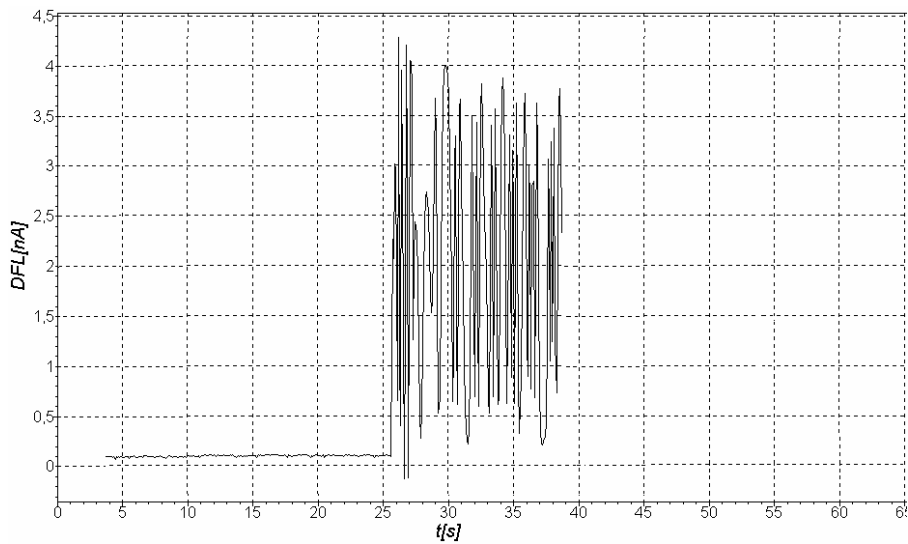

Fig. 3-11
*It can be so that after the approach procedure is performed and **DFL** signal is increased to the value of **Set Point** parameter, **DFL(t)** dependence demonstrates a considerable increase of **DFL** signal variable component (as shown on Fig. 3-11 for example). This means that a generation occurs in the feedback loop due to the fact that the value of **FB Gain** parameter is too high. In this case the value of **FB Gain** parameter should be decreased to 0.5-07 of the threshold level. The procedure of **FB Gain** parameter adjustment is described below in i. 3.1.5 on page 71.*